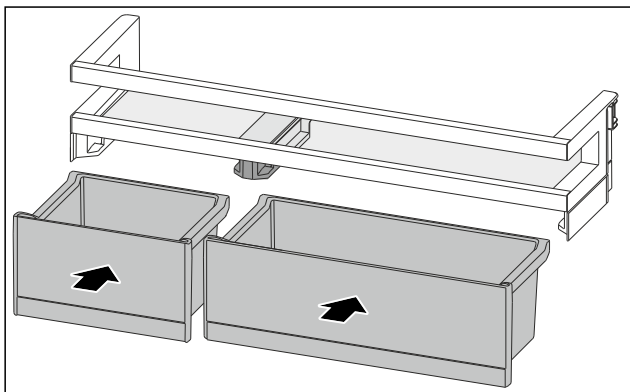

Fig. 82
- ▶ Insert the VarioBoxes opposite order. (see Fig. 82)